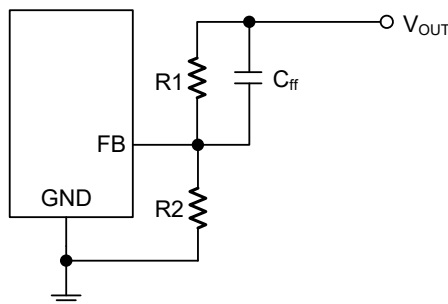

Figure. 1 Output Voltage Setting Circuits
Figure 1 shows the basic application circuit for the **UD18306**. The external resistance voltage divider can set the output voltage according to Equation (1).